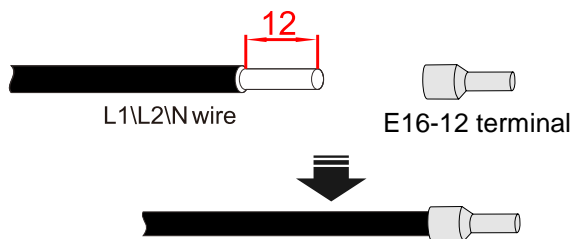

Figure3-37 Stripping diagram of L1\L2\N (unit: mm (in))
Step 2 Strip the insulation layer of wire for about 12mm, as shown in Figure3-37.